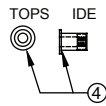

FIGURE 6
3. Place nylon insert nuts (Item 5) into square holes on corner gussets located on the back side of the shutter (Item 6). See figure 6 on reverse side.